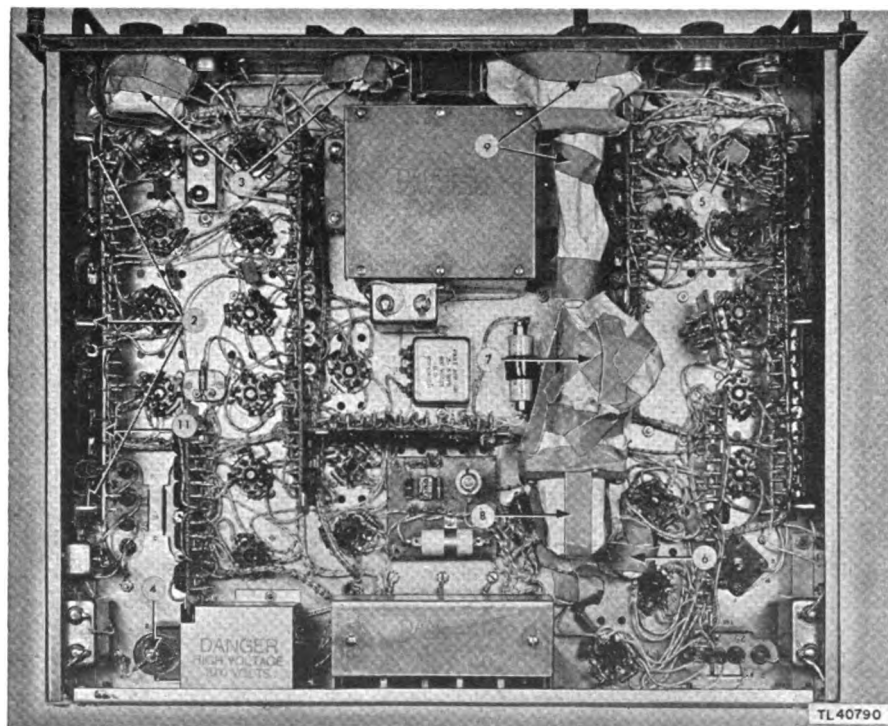

Figure 50. Unit BC-1268-A—bottom view showing masked parts.
(c) Remove the three screws from the mountings (fig. 50②) of each terminal strip under the sides of the chassis.